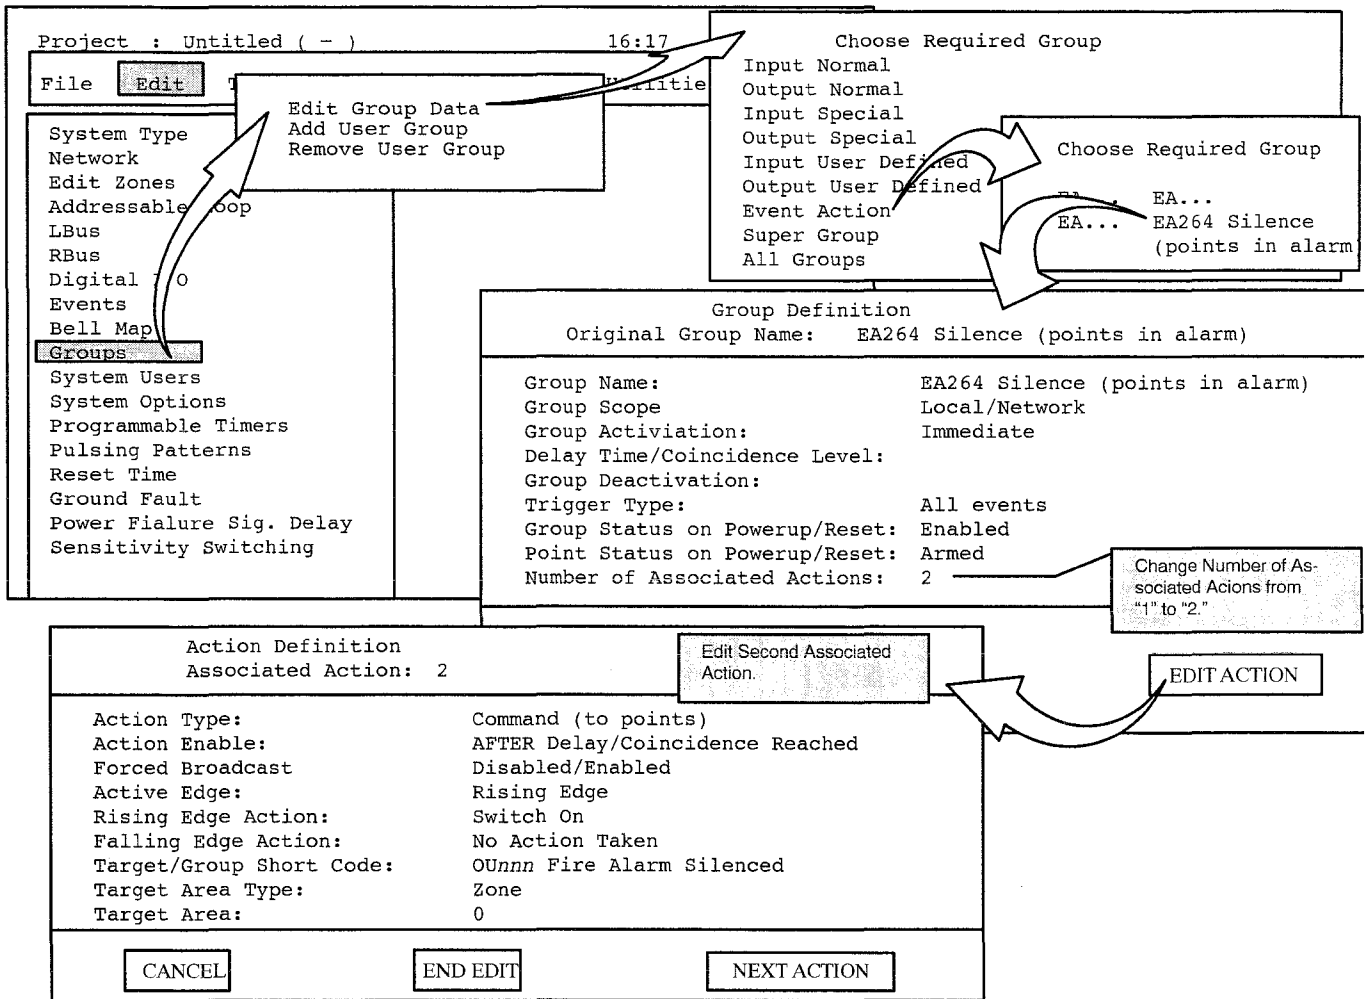

Figure 5. Editing EA264 "Silence (points in alarm)" for additional associated action Output OUnnn Fire Alarm Silenced.
2. Edit Event Action Group EA264, "Silence (points in alarm)" group (See Figure 5) as follows: